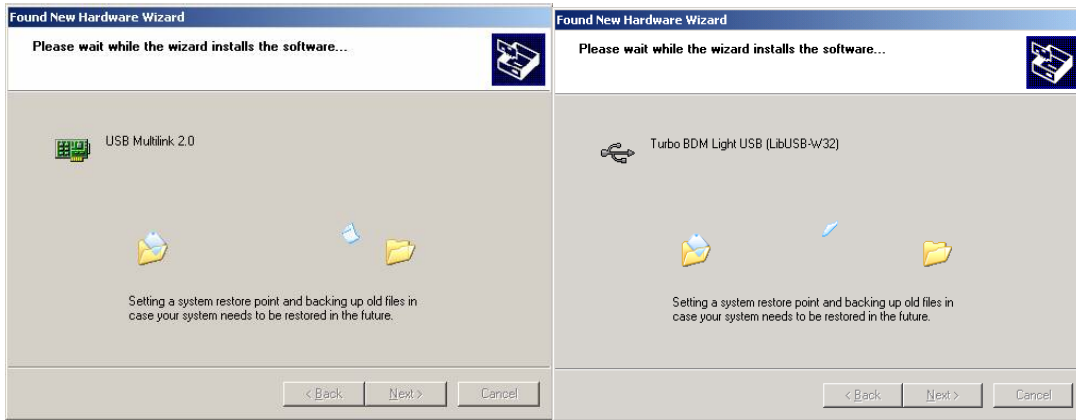

Figure 7. Found New Hardware Wizard (Screen 2)
- 4) Installation will begin with the Found New Hardware Wizard (Screen 2) illustrated by Figure 7. No user action necessary until software is completed installing.